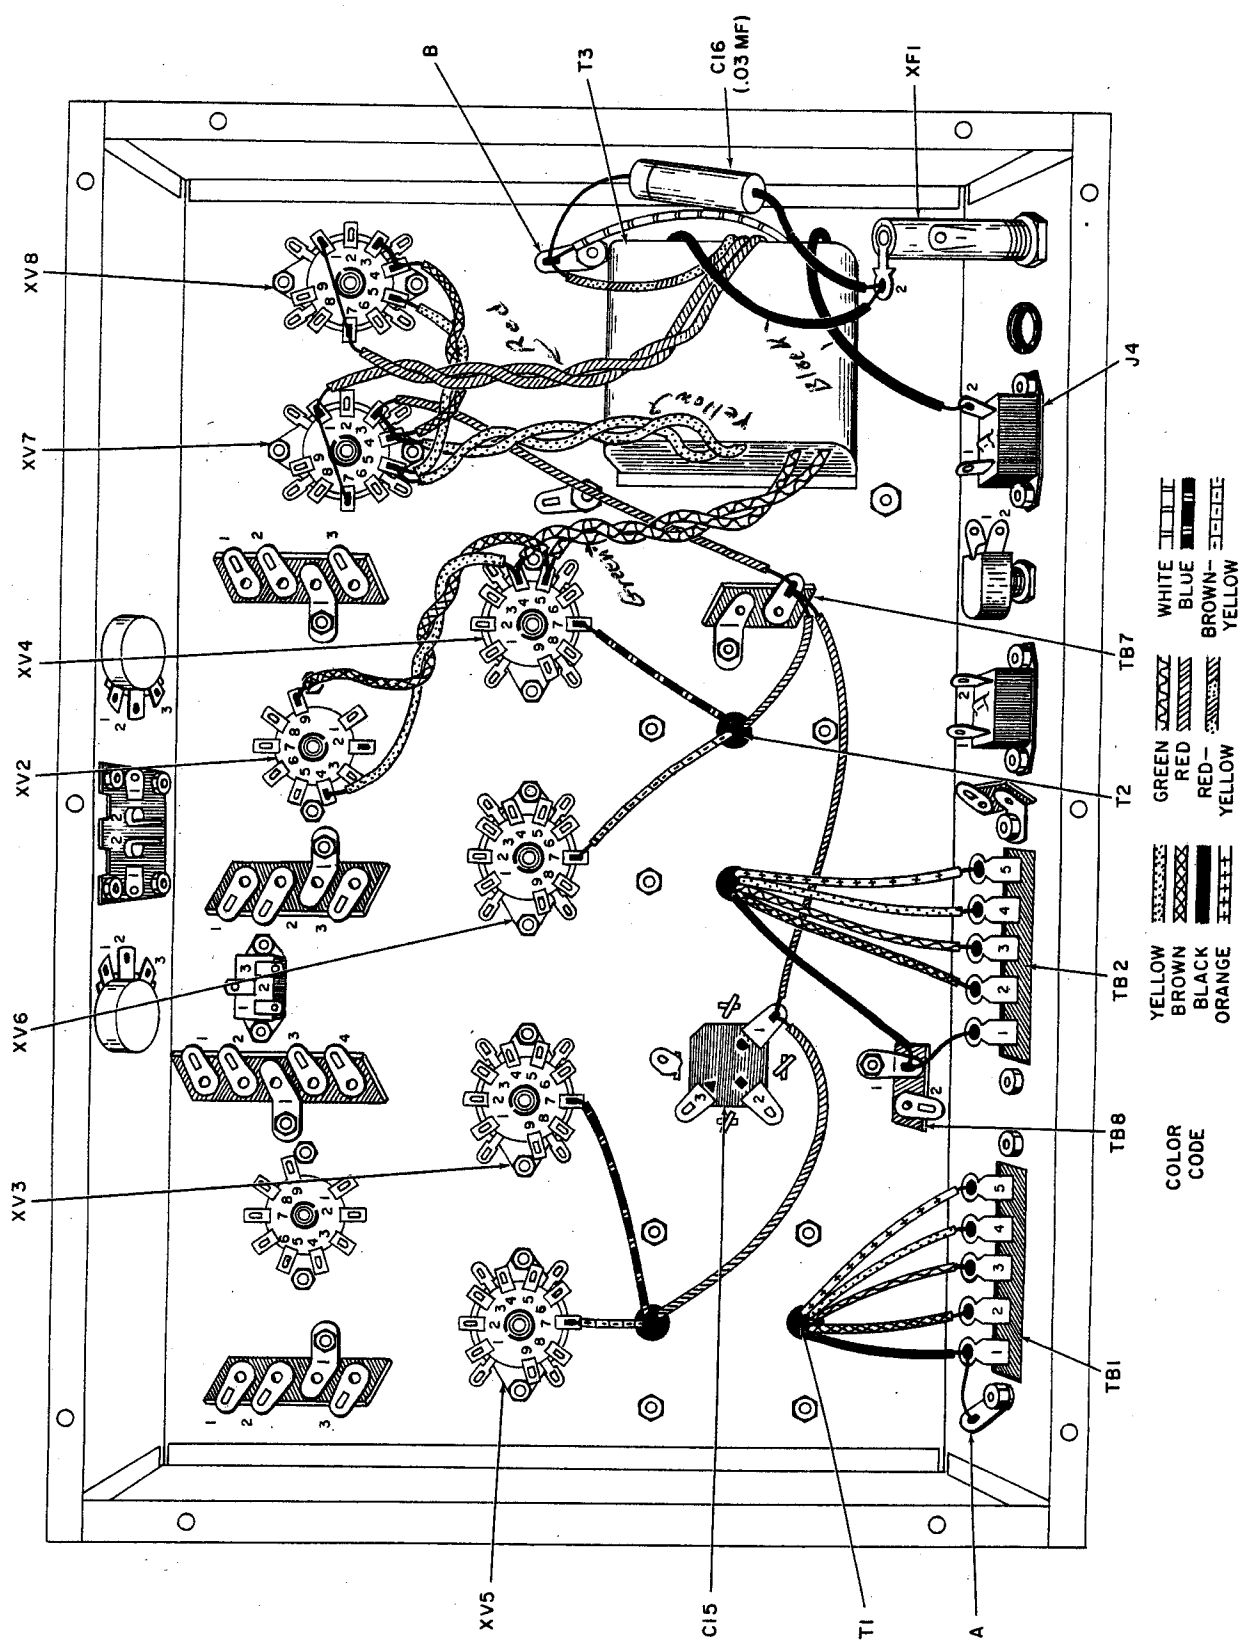

Figure 4. Preliminary Wiring
(*) 1. On power transformer T3 (30021), cut both red and both green leads to 6 in., the red-yellow lead to 2-1/2 in., the white lead to 3 in., the two black leads to 3-1/2 in., and the two yellow leads to 4-1/2 in. Mount T3 as shown, with the red leads closest to the side of the chassis. (See figure 4.) Use two No. 8 ground lugs, four No. 8 lockwashers, and four No. 8-32 hex nuts.
(*) 3. On output transformer T2 (32013), cut the brown, yellow, green, and orange leads to 3-1/2 in. Cut the blue, yellow-brown, and black leads to 3 in., and the red lead to 2 in. Pull the brown-yellow, blue, and red leads through the chassis opening closest to T3. Pull the remaining leads through the chassis opening furthest from T3. (See figure 4.) Use four No. 8-32 screws, four No. 8 lockwashers, and four No. 8-32 hex nuts to mount the transformer.
(*) 4. Mount two 9-pin miniature tube sockets (with shield supports) XV1 and XV2, as shown. Note that the sockets should be oriented so that the large space between socket pins is directed towards transformer T3. Use two No. 4-40 screws, two No. 4 lockwashers and two No. 4-40 hex nuts to mount each socket. (See figure 4.)
(*) 5. Mount electrolytic can capacitor C15, as shown. Note orientation of half-moon, square, and triangle near lugs as shown in figure 4. Insert the capacitor mounting tabs into the slots in the chassis and twist the tabs a little less than a quarter turn. Do not twist the tabs excessively or they will shear off. Solder the capacitor tab without a hole, to the chassis at the slot in the chassis.
- () 1. Mount tube sockets XV3 through XV6, as shown. Orient each socket so that the large space between pins 1 and 9 is directed away from power transformer T3. (See figure 4.) Use two No. 4-40 screws, two No. 4 lockwashers and two No. 4-40 hex nuts to secure each socket.
- (X) 2. Mount tube sockets XV7 and XV8, as shown. Orient each socket so that the large space between pins 1 and 9 is directed away from power transformer T3, towards the front apron. (See figure 4.) Use two No. 4-40 screws, two No. 4 lockwashers and two No. 4-40 hex nuts to
SEE FIGURE 4 FOR ALL STEPS ON THIS PAGE
(*) 13. Connect a 4 in. piece of yellow wire to XV4-4 and a 4 in. piece of brown wire to XV4-5. Twist the wires together, as shown in figure 4. Connect the other end of the yellow wire to XV2-4 and the other end of the brown wire to XV2-9. Now solder two wires connected to XV4-4 and the two wires connected to XV4-5.